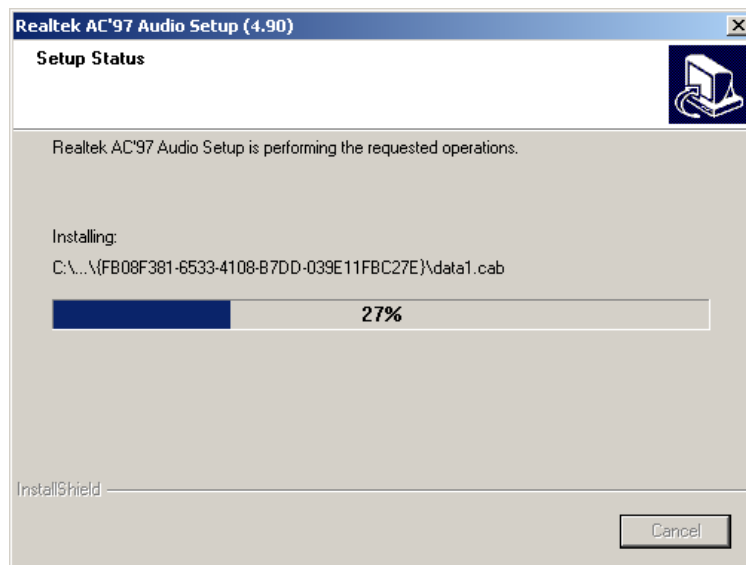

Figure 7-29: Audio Driver Software Configuration
Step 8: InstallShield starts to install the new software as shown in **Figure 7-29**.